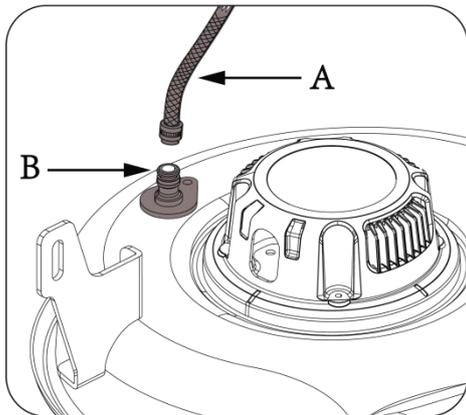

Figure 5.3
2. Connect a water hose (fig.5.3.A) to one of the two specific couplings (fig 5.3.B) and open the water supply.